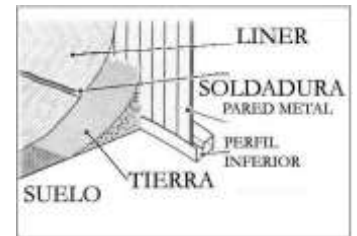

fig. 24
**VERY IMPORTANT:** Use clean sand (no stones or other objects) to cover the perimeter around the inside of the pool, creating a triangular wedge (20 cm height, 20 cm base). This way we will avoid that the water pressure damages the liner, at the same time as we avoid that the liner slides under the steel wall, helping a correct distribution of the forces. It is very important not to use thin grain sand, or beach sand, fig. 24. Not putting this sand wedge cancels the guarantee.
- e) Remove the clamps while installing the protective profile (PL), fig. 24, over the liner and around the perimeter of the pool.